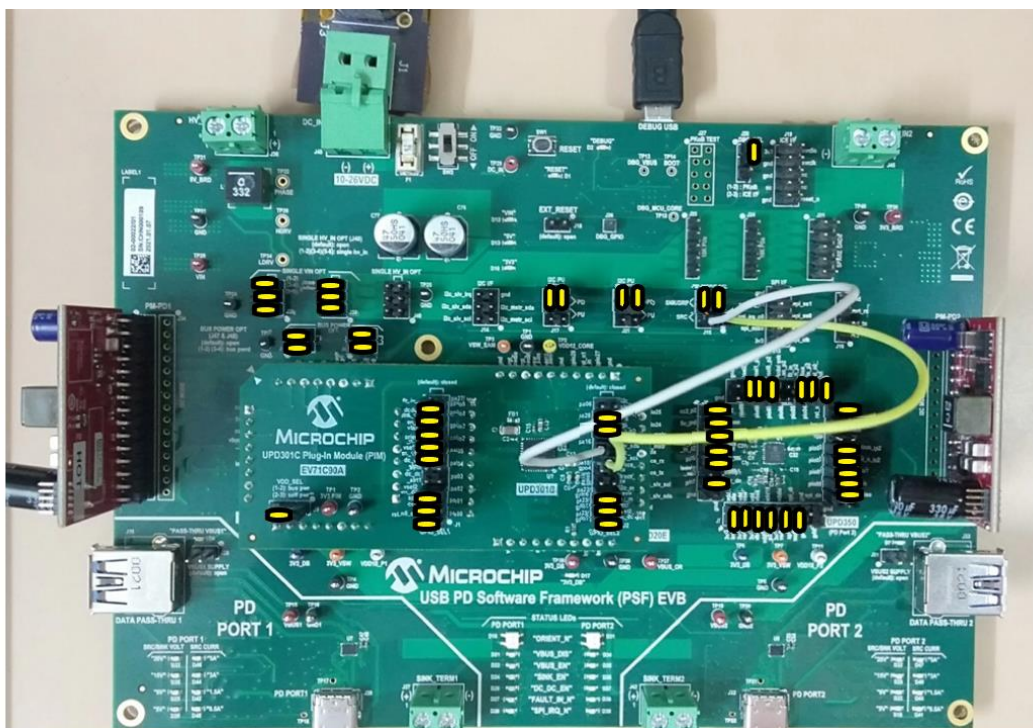

Figure 5.3 EVB-PSF with jumper connections highlighted.
3. Ensure the following jumpers are connected in EVB-PSF before proceeding to next step. . An image of EVB-PSF with all the required jumper connections highlighted is shown in Figure 5.3.
4. Connect PA17 of GPIO_SEL2 to J15.1 and PA16 of GPIO_SEL2 to J15.2 to enable DC_DC_EN_0 and DC_DC_EN_1 functionality as shown in the figure 5.3.